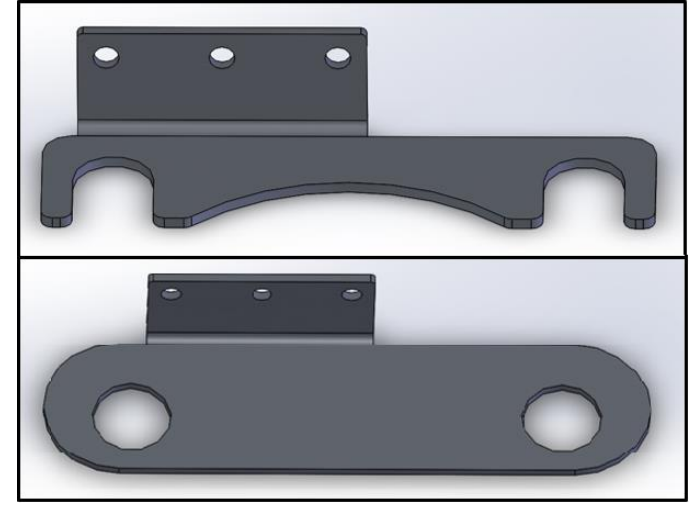

Figure 3 Bracket design for smaller DN-size with forks at the top and for larger sizes the design with bolt holes at the bottom.
4. Valve size DN65 or smaller: Fit the brackets “forks” (see figure 3) into the clearance and tighten the bolts.
5. Valve size DN80 or larger: Mount one bolt in each of the bolt holes (see figure 3) on the bracket. Re-assemble the bolts on the valve and tighten them.